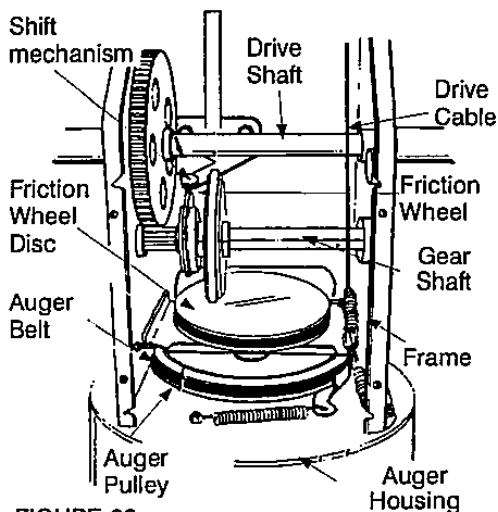
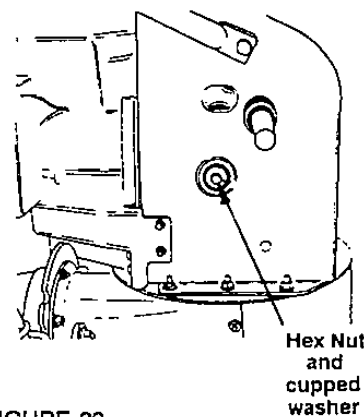

FIGURE 22
FIGURE 29
If for any reason your transmission was disassembled and the drive cable disconnected, make sure when reassembling to pass the cable between the drive shaft and the gear shaft before reconnecting to support bracket. See figure 22.
- Slip belt between friction wheel and friction wheel disc. See figure 22. You may have to twist the belt flat in order to slide it through the clearance between the friction wheel and the friction wheel disc. Remove the belt completely.
- Remove the gear shaft from the unit by removing the hex nut and cupped washer from left side of the frame. See figure 29. Hold the friction wheel assembly, and slide the gear shaft out of the unit toward the right hand side. Refer to figure 22.
- Reassemble new friction wheel rubber to the friction wheel assembly, tighten approximately 2 turns on each screw until tight. It is important for the rubber to be assembled symmetrically. See figure 29.